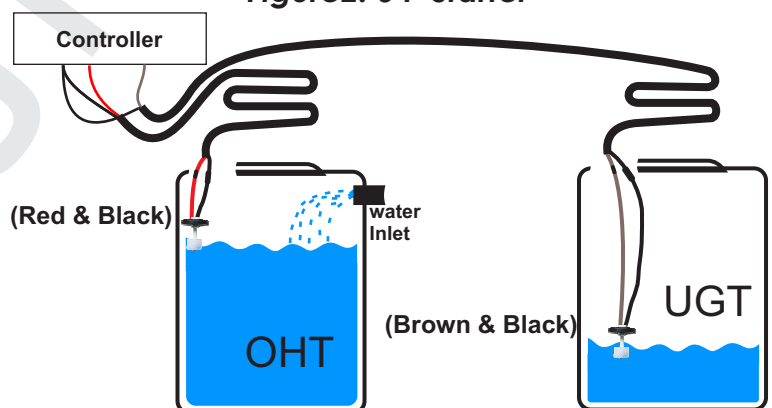

Figure4: Sensor Connection
Step 5: Lay 4 core cable between controller and tanks. Join one end of the 4 core cable to sensor line of the controller as per colour coding. In tank side, **Magnetic float sensor connections:** These sensor has 2 wires. Use any one wire in each sensor as common. Other wires left in each can be used for levels. Join them with 4 core cable as per label coded. (Refer figure 4). If you have Over Head Tank only model do the sensor connection only in OHT.